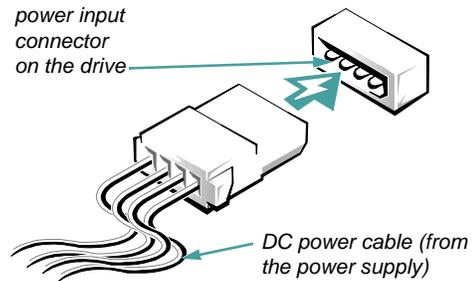

Figure 8-4. Power Connectors
Figure 8-4 shows the 4-pin *power input connector*, where you connect a direct current (DC) power cable from the power supply. The power connectors are *keyed* to avoid incorrect insertion; do not force two connectors together if they do not fit properly.